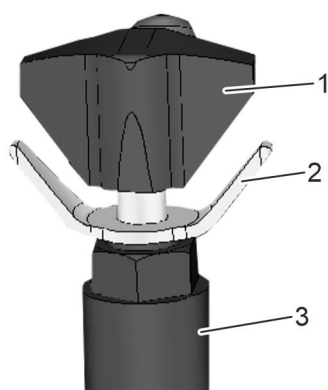

Fig. 22: Pressure adjustment valve
2. ➤ Release the adjustment lock (Fig. 22/2). Turn the knob anti-clockwise to do so.
3. ➤ Turn the knob (Fig. 22/1) anti-clockwise and open it completely.